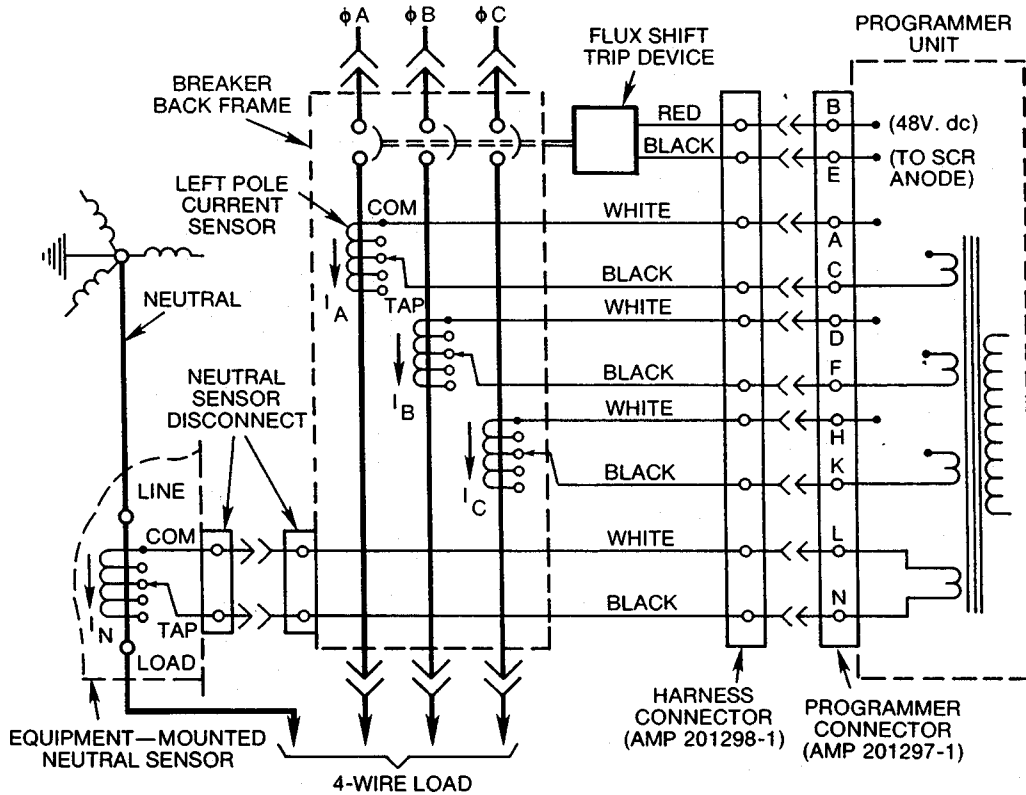

Fig. 15. Cabling Diagram—SST with Ground Fault on 4-wire load
Application of the Ground Fault element to 4-wire systems with neutral grounded at the transformer requires an additional, separately mounted sensor (Fig. 6) inserted in the neutral conductor; its secondary is connected to a fourth primary winding on the ground differential transformer. See Fig. 15. This "fourth-wire" neutral sensor is an electrical duplicate of the phase sensor, including taps. Therefore, when taps are changed on the phase sensors, those on the neutral sensor must be correspondingly positioned.
- d. On Ground Fault breakers serving 4-wire loads, check that the neutral sensor is properly connected (see cabling diagram Fig. 15). In particular,